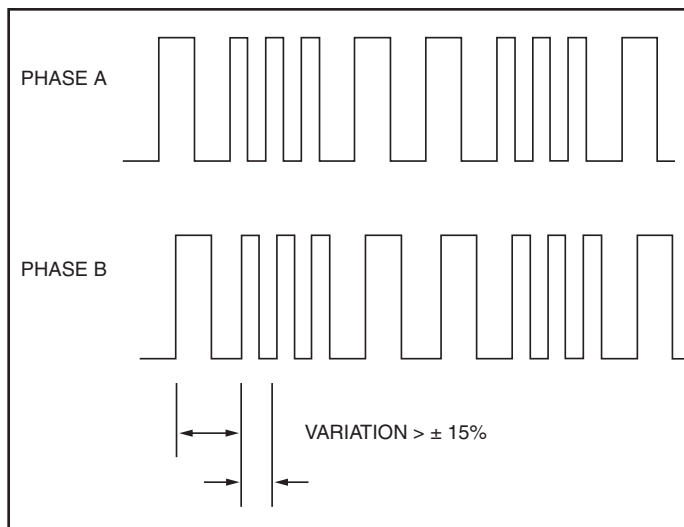

Figure 1 Excessive Signal Variation (“Jitter”)
1. Remove an end sensor plate or the second sensor, and use the built-in gauge to check the location of the rotor (see Figure 1).
An oscilloscope can also be used to verify proper output of the AV5 encoder at the encoder connector itself and at the drive/controller cabinet. If the outputs show large variations in the signals at steady speed (jitter or “accordion effect”, figure 1), check rotor position. If the rotor position is correct, the motor or shaft may be highly magnetized. Replace any magnetized shafts with non-magnetic material (stainless/aluminum). Consider replacing the sensors with super-shielded models, option -004.